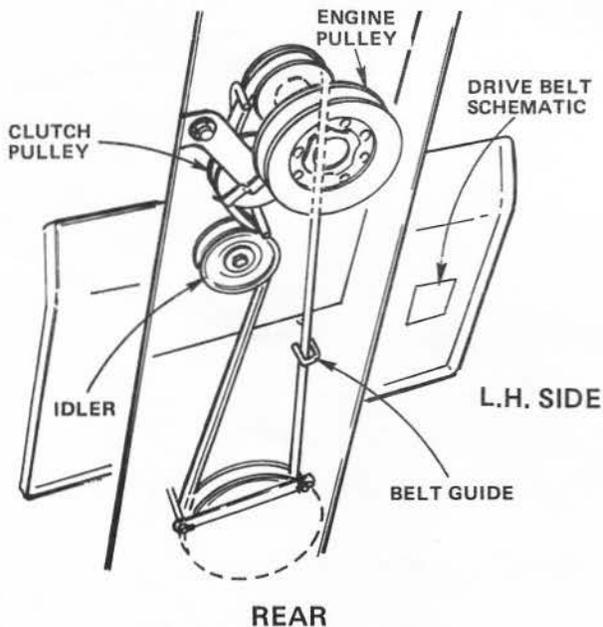

FIGURE 34
- e. Roll Belt over Engine Pulley and off Idler (Fig. 34).
- g. Reset Parking Brake. Pull Belt over top of Clutch Pulley (Fig. 34).